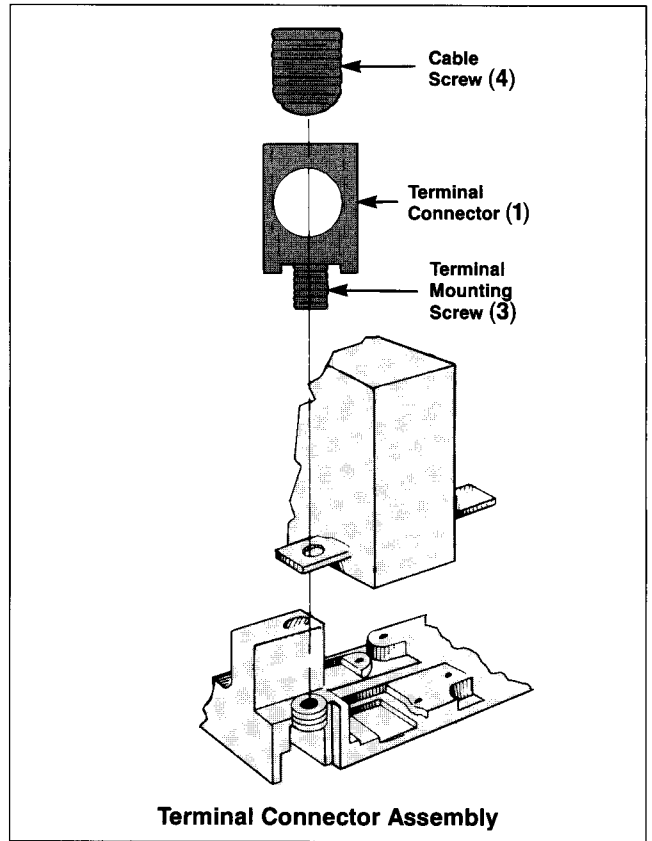

Figure 1
- A. Place terminal connector body (1) (Figure 1) into terminal cavities (2) (Figure 2).
- B. Torque terminal mounting screw (3) to specified torque value.
- C. Place cable set screw (4) into threaded body opening. After cable has been inserted into cable cavity, torque cable set screw to specified value.